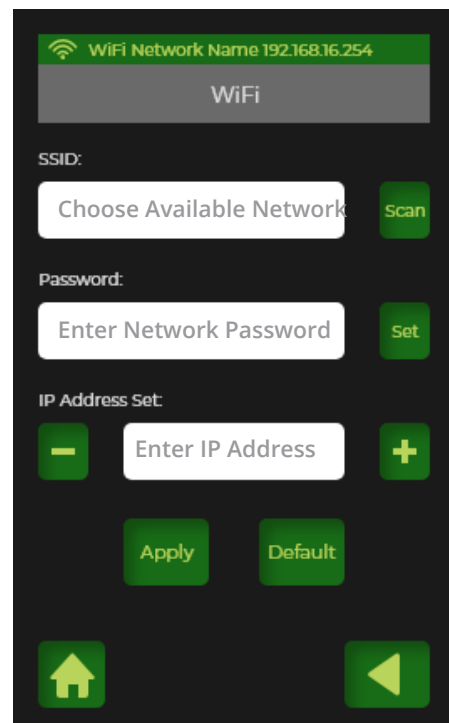

Fig. 1.10.4
7. Note the complete IP address at the top of the window (FIG. 1.10.4). You will be entering this same IP address in the software you use for cutting.